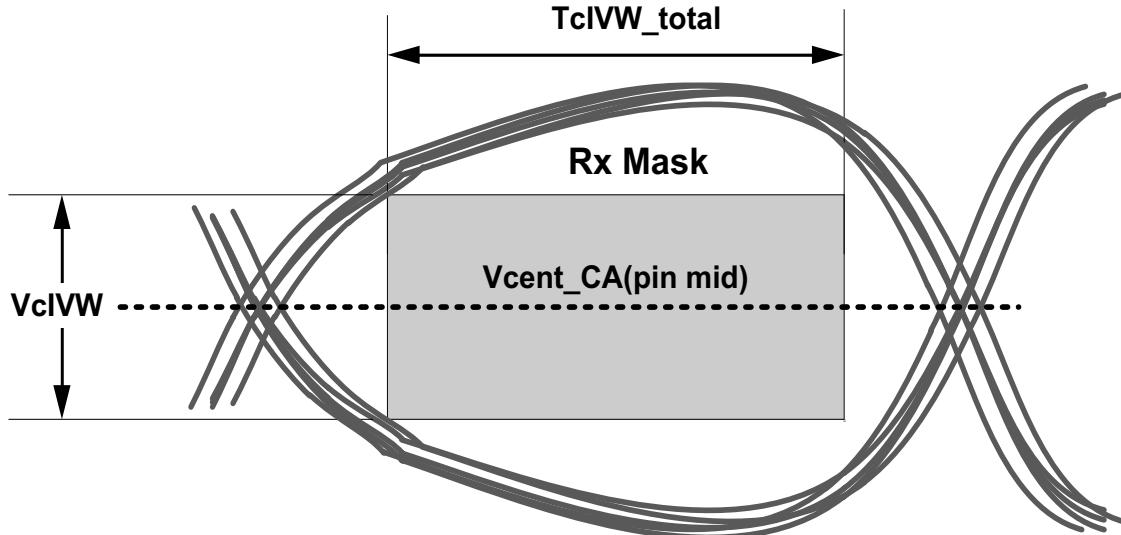

Figure 107 — CA Receiver(Rx) mask
The command and address(CA) including CS input receiver compliance mask for voltage and timing is shown in Figure 107. All CA, CS signals apply the same compliance mask and operate in single data rate mode.